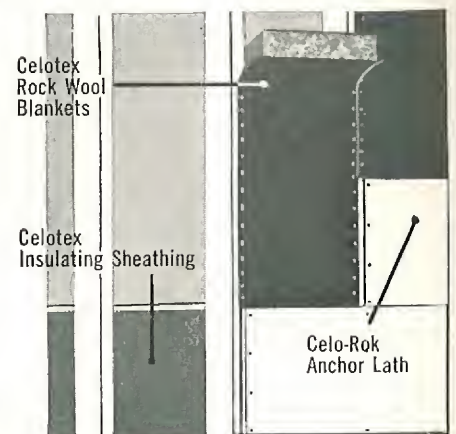

Fig. 2
2. Use Celotex Insulating Sheathing *plus* Celotex Rock Wool Blankets (Fig. 2). While this construction adds another material, and therefore another cost, it gives you extra high insulating efficiency. And it pays lifetime dividends in comfort and fuel savings.